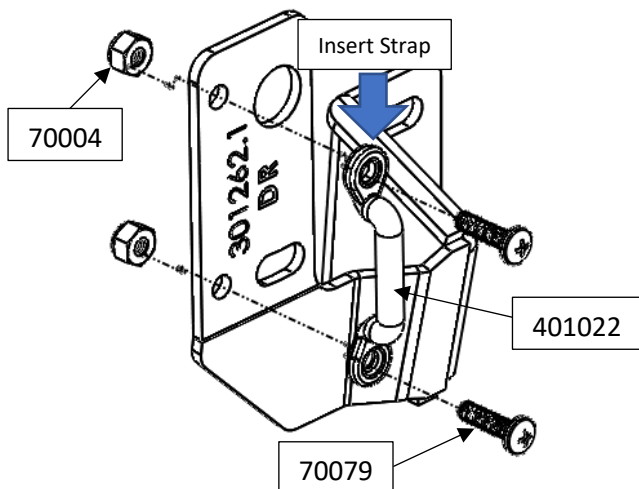

Figure 7: Installation of Webbing Anchor onto Bracket
20. Install the webbing anchor onto the lower hinge bracket. Be sure to first thread the anchor through door strap (reference Figure 7 - 8).